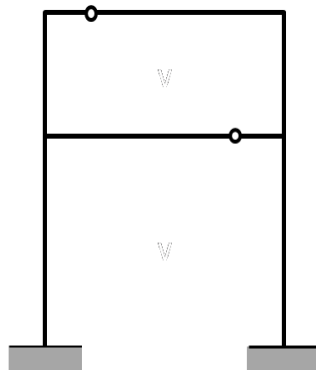

Figure 2
“Degree of statical indeterminacy of the frame shown in **Figure 2** is FOUR (4)”.